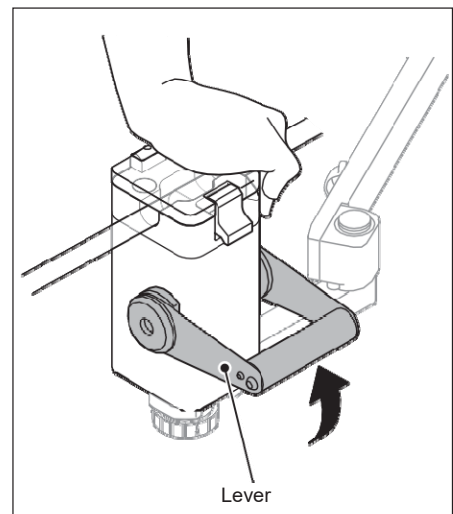

Figure 2-7
5. Pull up the lever of the Fast Clamp until you hear a click, and remove the occlusion with the Fast Clamp. (Figure 2-7)